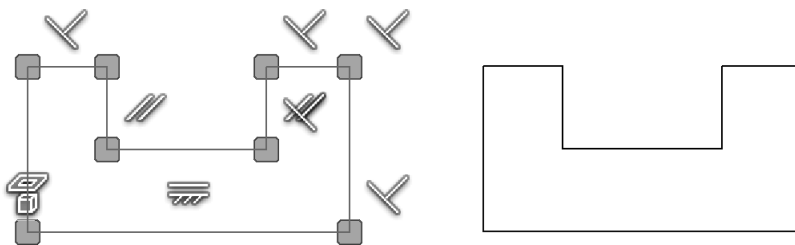

Figure 2.32
- 12 Figure 2.32 left shows the sketch constraints and the image on the right without the constraints.